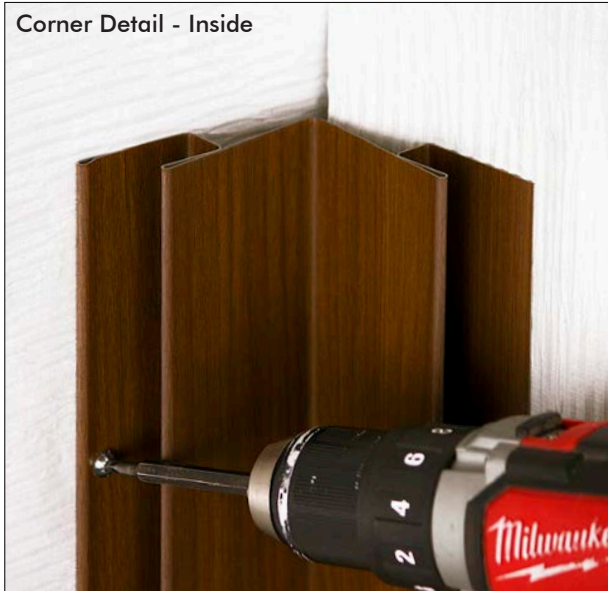

Fig.56
Step 1: Set the inside corner (#707) in place and fasten (Fig.56).